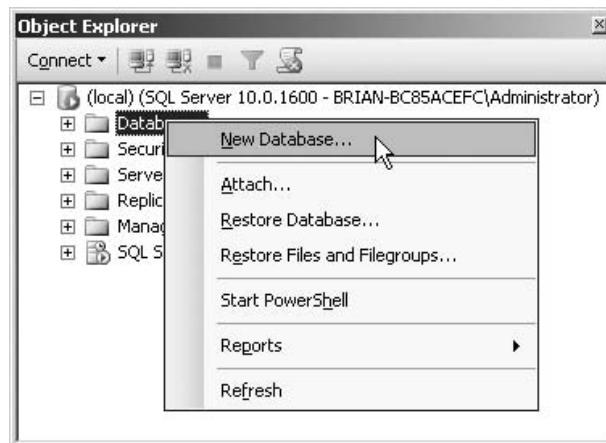

Figure 6-19 The Database folder context menu
3. Right-click the Databases folder in the Object Explorer window. The context menu appears, as shown in Figure 6-19.